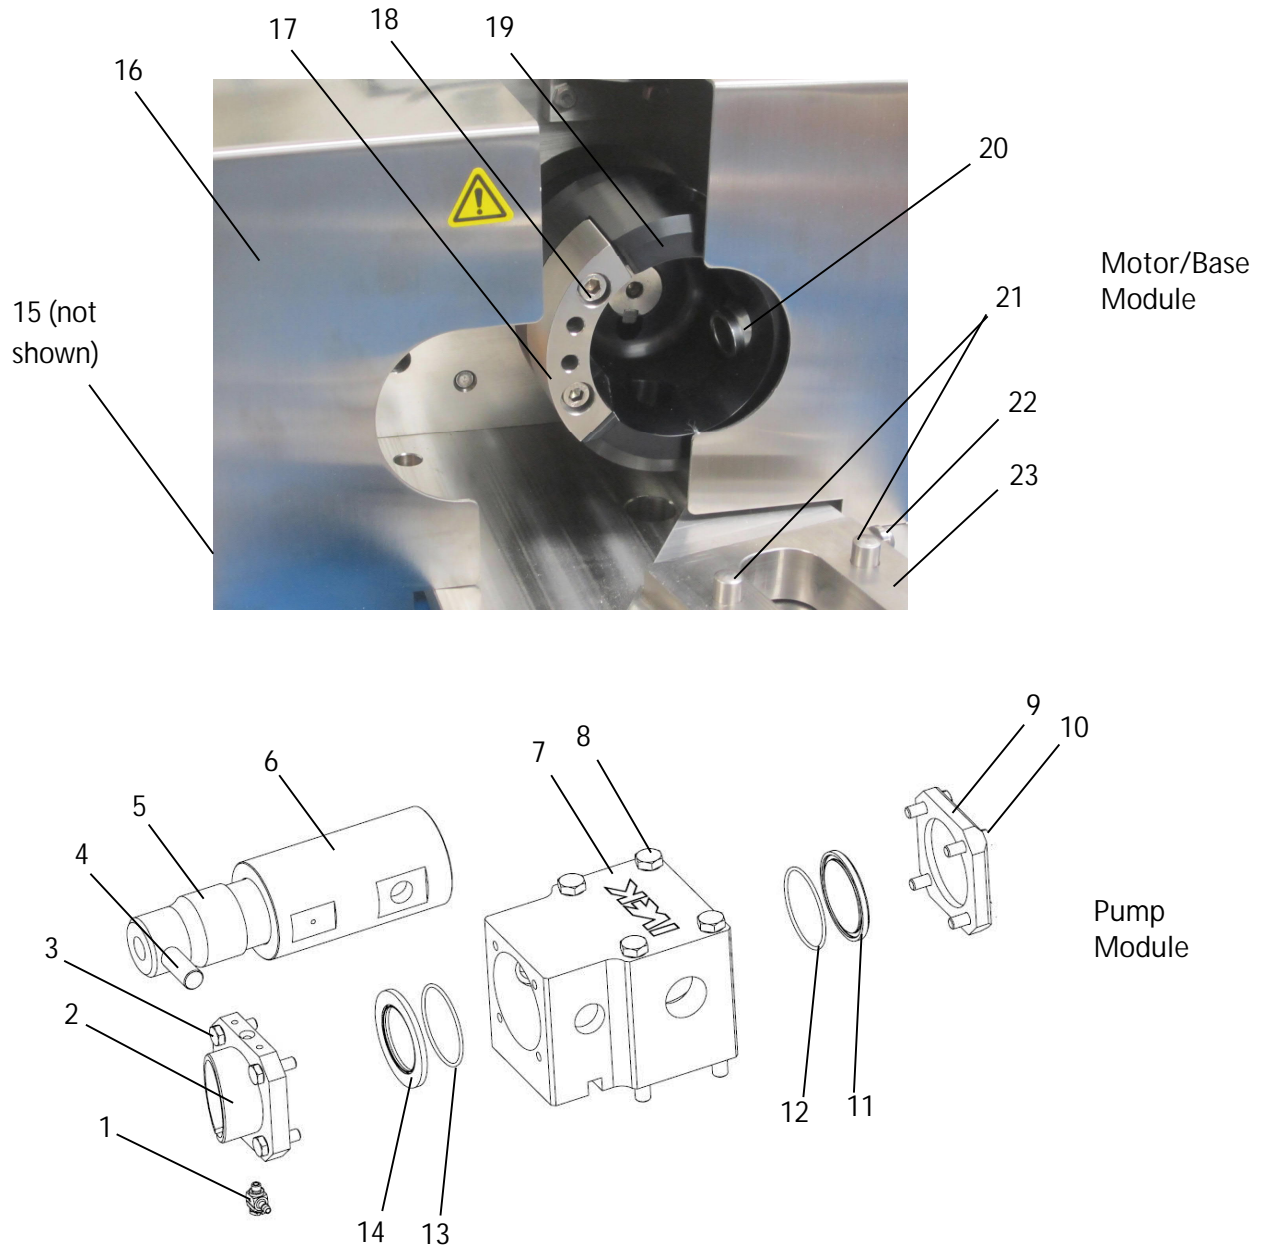

Figure 7.3 MegaSpense Pump Module Disassembly/Assembly
Installing the Pump Module into the Motor/Base Module involves the following: (refer to Figure 7.3) Refer to Section 7.5.4.1 for removal procedure.
7.5.4 Assembly/Disassembly Procedures (Refer to Figure 7.3)